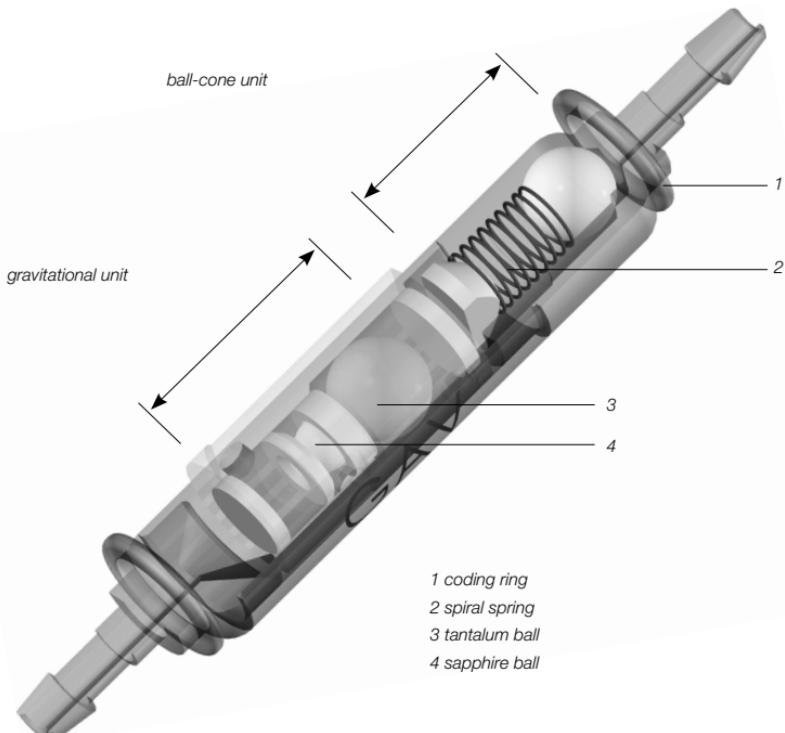

Fig. 1: Schematic cross section of the GAV
Fig. 1 shows a schematic cross section of the GAV. It consists of a sturdy titanium casing, which houses, in its proximal section, a well-tried ball-cone unit. A spiral spring (2) maintains the opening pressure of the ballcone valve. The gravitational unit in the distal part consists of a tantalum ball (3), which defines the opening pressure of this valve, and a sapphire ball (4), which ensures its precise closure.